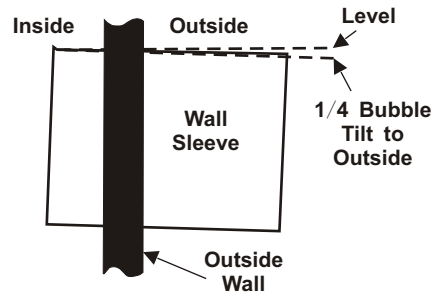

Fig 6 Proper Sleeve Tilt
- A slight downward pitch from the indoor side to the out-door side as shown below (Fig 6).